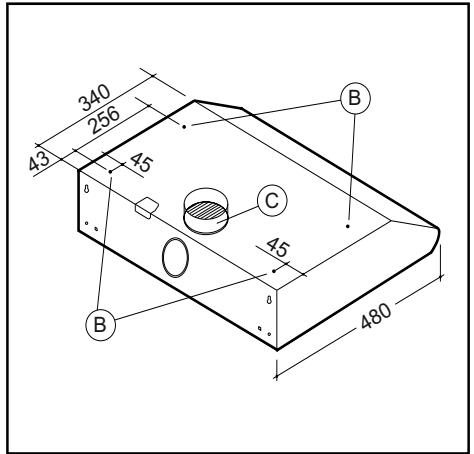

Fig.2
• MOUNTING THE RANGE HOOD UNDERNEATH A WALL CABINET - (Fig.2)